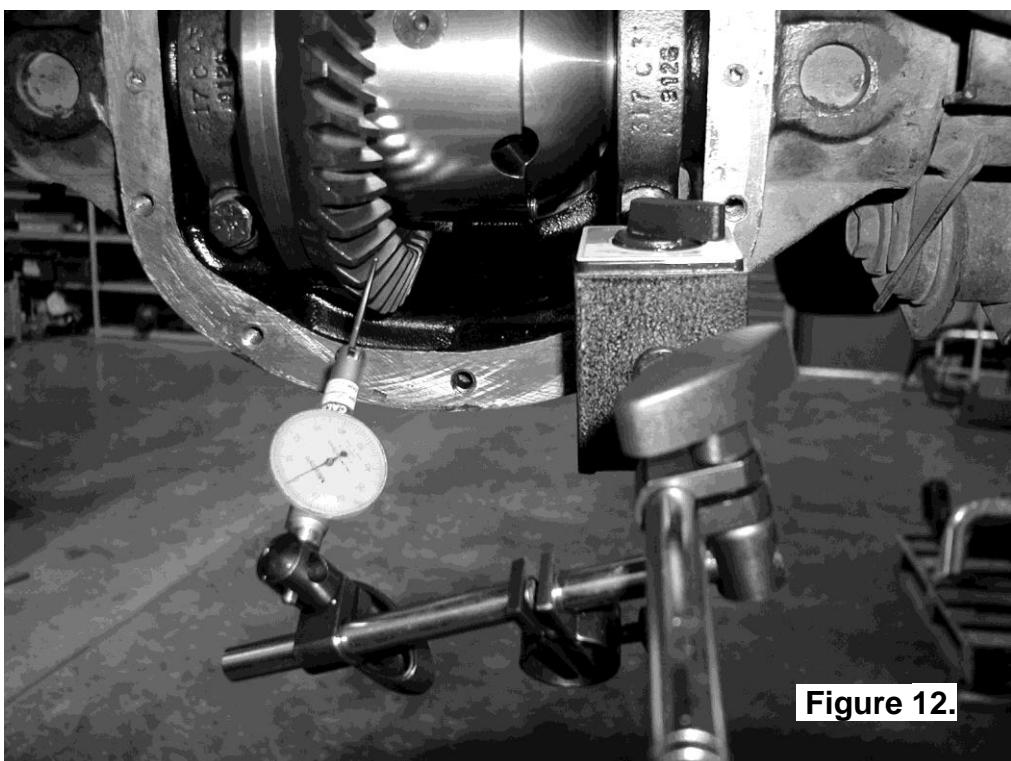

Figure 12.
- Set a depth indicator on one of the ring gear teeth as in Figure 12.